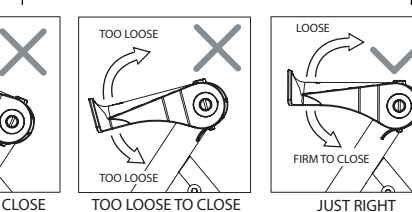

Figure 8.
8. On the SQR™ lever side, now rotate the black plastic lever down to a horizontal position. See figure 8.
10. The lever should be easily rotated to the horizontal with little force and become firm to close after being pushed beyond horizontal (level with the ground), See figure 8.